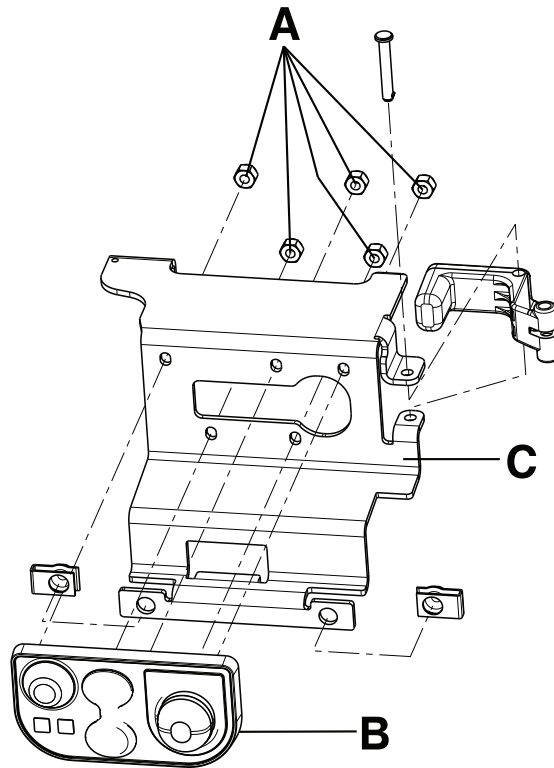

Figure 16 – Master On/Off switch and manual release button bracket assembly
2. Using a 1/32" nut driver, remove the five Fiberlock hex nuts (A) that secure the master On/Off switch (B) to the manual release button bracket (C). Discard the master On/Off switch (Figure 16). Save the nuts.